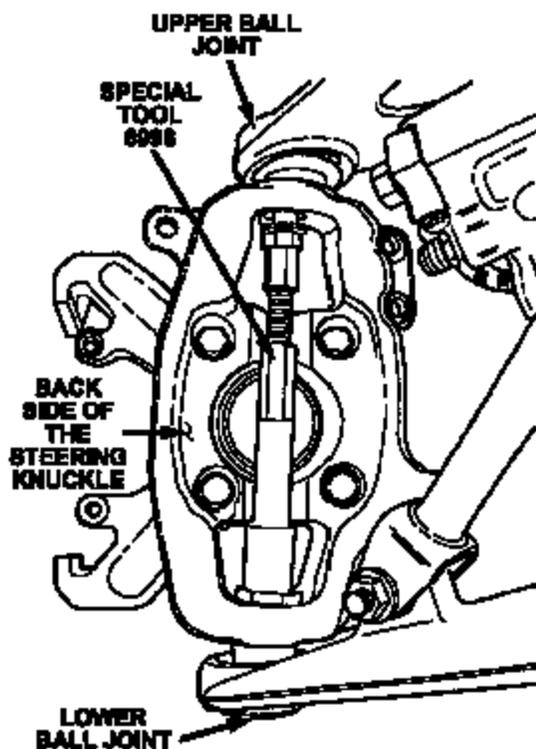

Figure 3
12. Install special tool 6998 as shown in Figure 3.